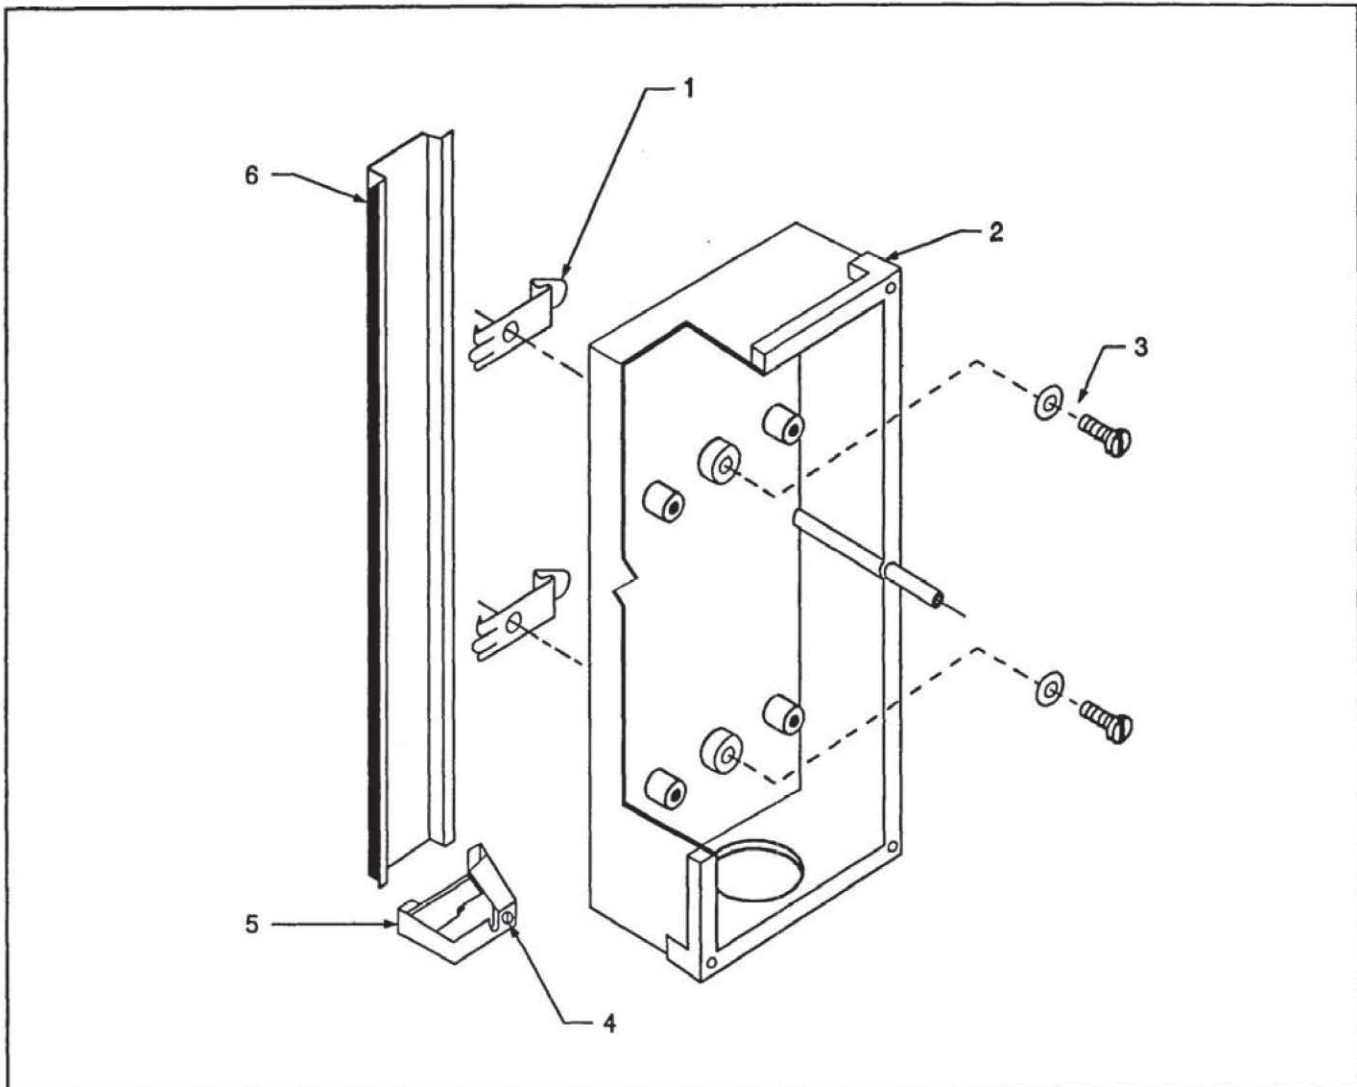

Figure 3.3 - Mounting PC40 to vertical DIN rails
Use the parts provided with the PC40 (Figure 3.3) to install the unit to DIN rails as follows:
1. Fasten the end bracket provided with the unit to the DIN rail by tightening the stop screw (Figure 3.3).
2. Use the two M4 x 12 mm screws to secure the two clips to the back enclosure; make sure that they are oriented for mounting to the vertical rail (Figure 3.3).